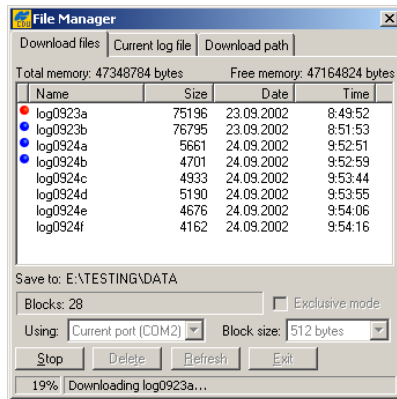

Figure 4-5. Download Files – Status Indicators
- Click the **Download** button. During the download, status indicators display next to each file (Figure 4-5).